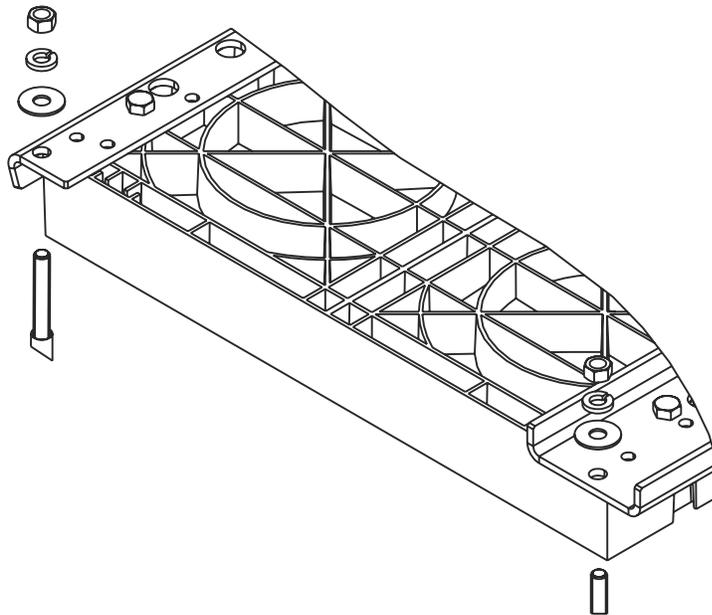

Figure 4-33: Hold-Down Rod Assembly
23. After securing the bottom end of the threaded rods torque the top of the threaded rods to 12 ft-lbs (see Figure 4-33).